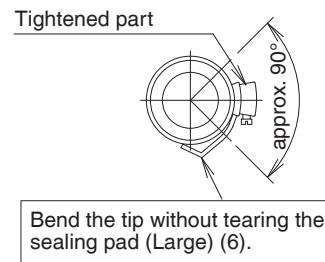

Fig. 14
- Do not tighten the clamp metal (1) with the torque more than the specified value. The drain hose (2), the socket or the clamp metal (1) may be damaged.
- Wrap the vinyl tape around the end of the clamp metal (1) so that the sealing pad (Large) (6) to be used at the next process may not be damaged with the clamp end or bend the tip of the clamp metal (1) inward as shown. **(Refer to Fig. 14)**